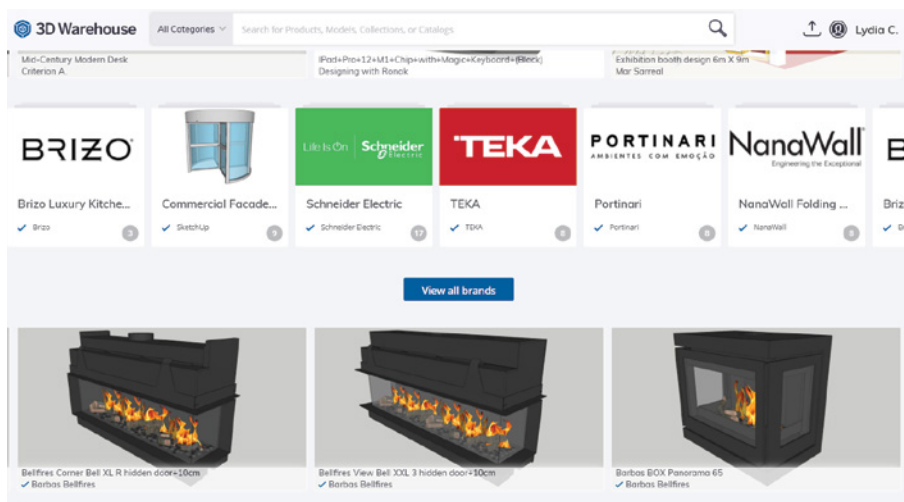

Figure 1-8: Catalogs of product models in the 3D Warehouse.
- ▶ *Access high-quality, ready-made models from the 3D Warehouse*, including products from manufacturer catalogs (Figure 1-8).